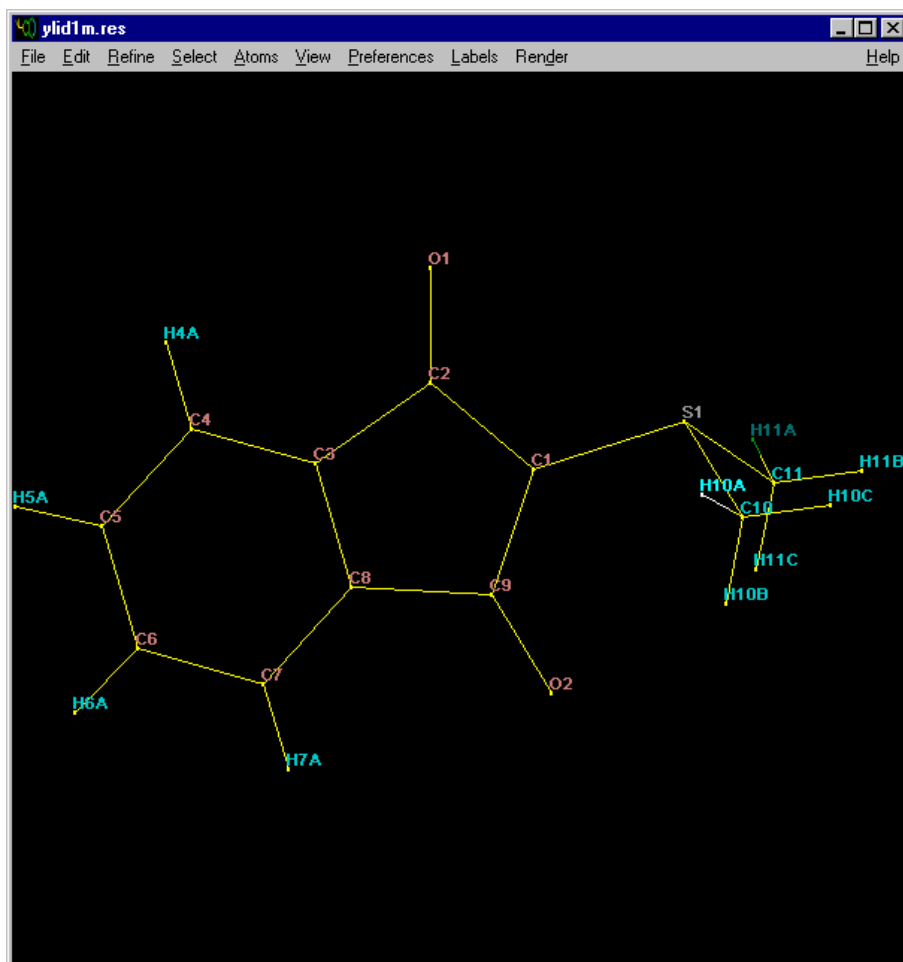

Figure 6-34. Ten H atoms added
40. The 10 H atoms will be added (Figure 6-34).